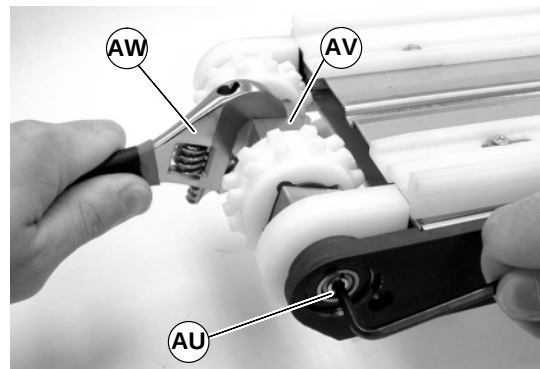

Figure 56
6. On both sides of pulley, use a 4mm hex-key wrench to tighten pulley taper screw (AU of Figure 56) to 75 in-lb (8.5 N-m). Steady pulley (AV) with wrench (AW).